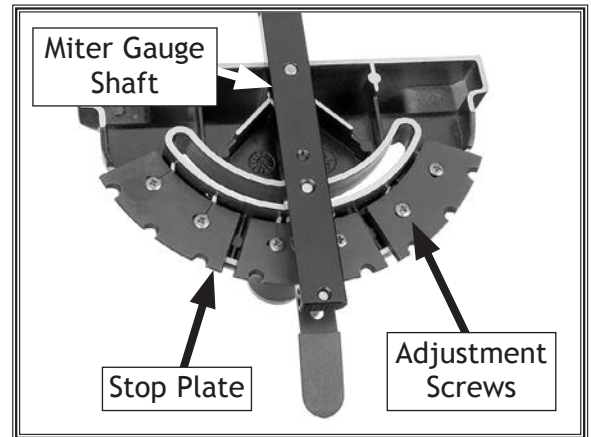

Figure 123. Checking 45° stop on miter gauge.
5. Loosen two Phillips head screws that secure 90° stop plate (see **Figure 123**).